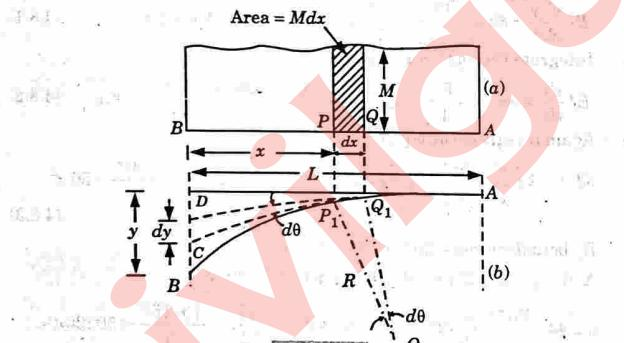

Fig. 4.9.1.
- Let us consider a beam AB carrying some type of load. Due to load bending moment diagram of beam is shown in Fig. 4.9.1(b).